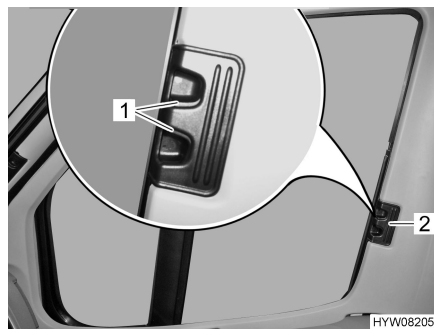

Fig. 18 Roman shade for driver's and passenger's window
- Press the release handles (Fig. 18,1) and hold them down.
- Using the handle (Fig. 18,2), draw the Roman shades for the driver's and passenger's window to the other side of the window and secure them to the magnetic strips.
- Use handle (Fig. 18,2) to push in the Roman shades for the driver's and passenger's window as far as possible.
- Let go of the release handles (Fig. 18,1) and let them engage.